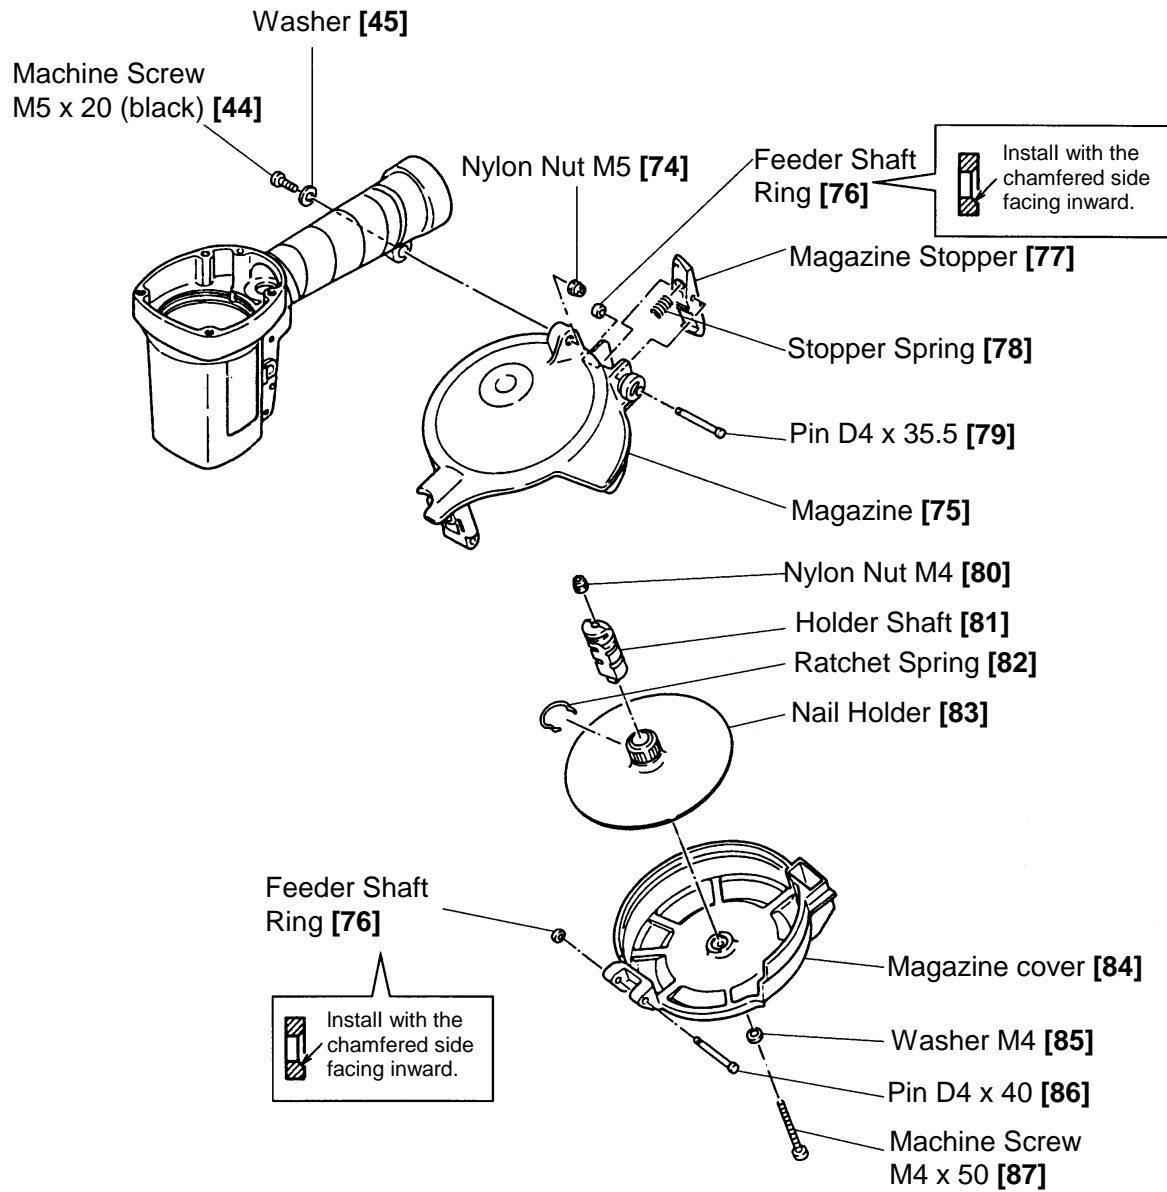

Fig. 25 Disassembly and reassembly of the magazine section
(2) Disassembly and reassembly of the magazine section (See Fig. 25)
(3) Disassembly and reassembly of the Magazine Stopper **[77]** (See Fig. 25)
- Mount the Feeder Shaft Ring **[76]** facing the chamfered side inward as shown in Fig. 25.
(4) Disassembly and reassembly of the Magazine Cover **[84]** (See Fig. 25)
(5) Disassembly and reassembly of the Nail Holder **[83]** and the Holder Shaft **[81]** (See Fig. 25)